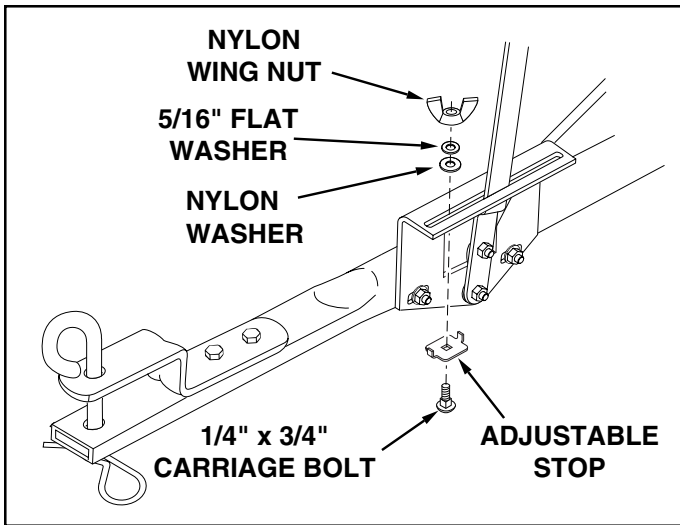

FIGURE 11
19. Place the adjustable stop into the "ON" end of the slot in the top of the flow control mounting bracket. Secure with the 1/4" x 3/4" carriage bolt, a nylon washer, a 5/16" flat washer and the nylon wing nut. See figure 11.